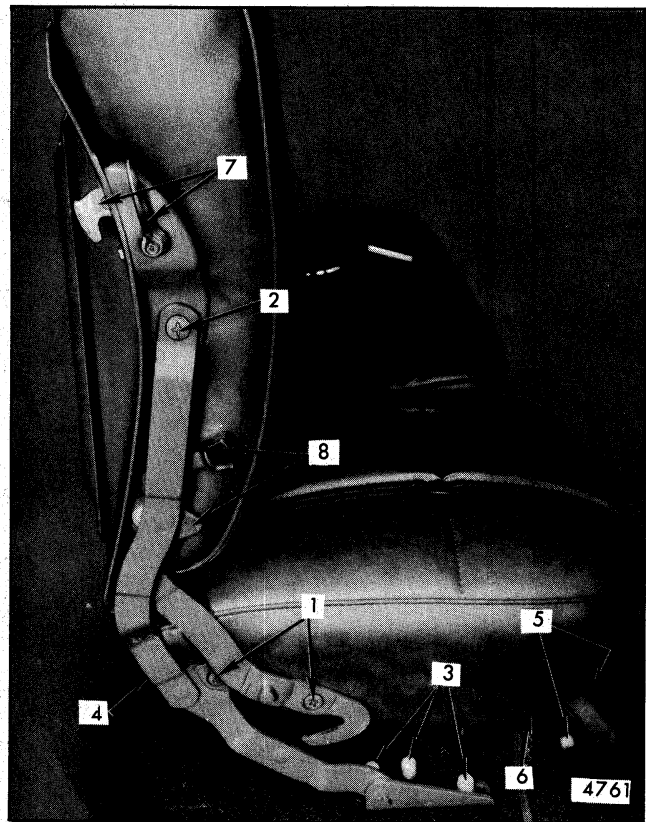

Fig. 9-98-Folding Second 1/3 Seat Back Outer Linkage, Seat Back Lock and Linkage Lock - "B" Body Three-Seat Station Wagon
3. Remove 1/3 seat cushion front linkage-to-floor pan stud caps and attaching nuts (Fig. 9-98).
4. Remove 1/3 seat back outer linkage-to-floor pan stud caps and attaching nuts (Fig. 9-98); then remove seat assembly including all attached linkages from body.
2. Remove seat back outer linkage-to-seat cushion screws (Fig. 9-98) and outer linkage to seat back panel screw.
aching stud caps and nuts at locations indicated in Figure 9-98; then remove outer linkage from seat.